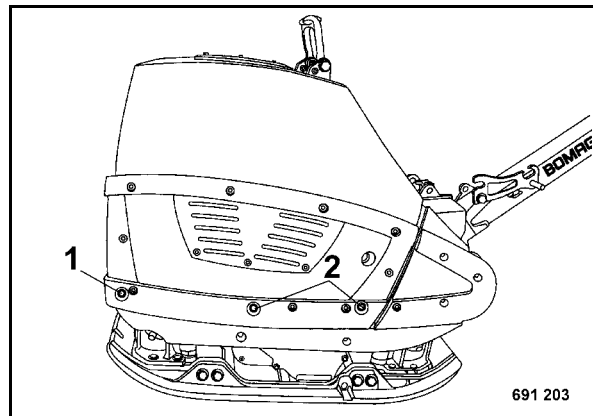

Fig. 38
- Loosen the hood fasteners (1) on both sides and remove the fasteners (2) from both sides (Fig. 38).